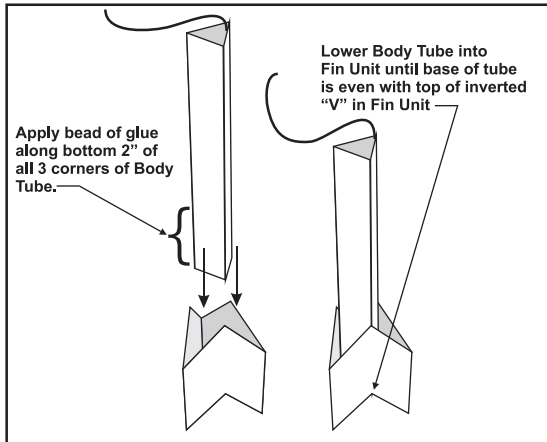

Figure 10
10. Referring to **Figure 10**, run a bead of glue along all 3 corners of the Body Tube along the bottom 2" of the Body Tube. Lower the Body Tube into the Fin Unit until the bottom of the Body Tube is flush with the top of the inverted "V" of the Fin Unit with the 3 corners of the Body Tube glued to the inside faces of the Fin Unit.